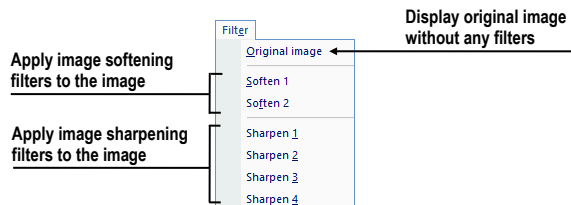

Figure 40 – Filter menu
- **Filter** – filters for image softening or sharpening in the current view (see Figure 40).